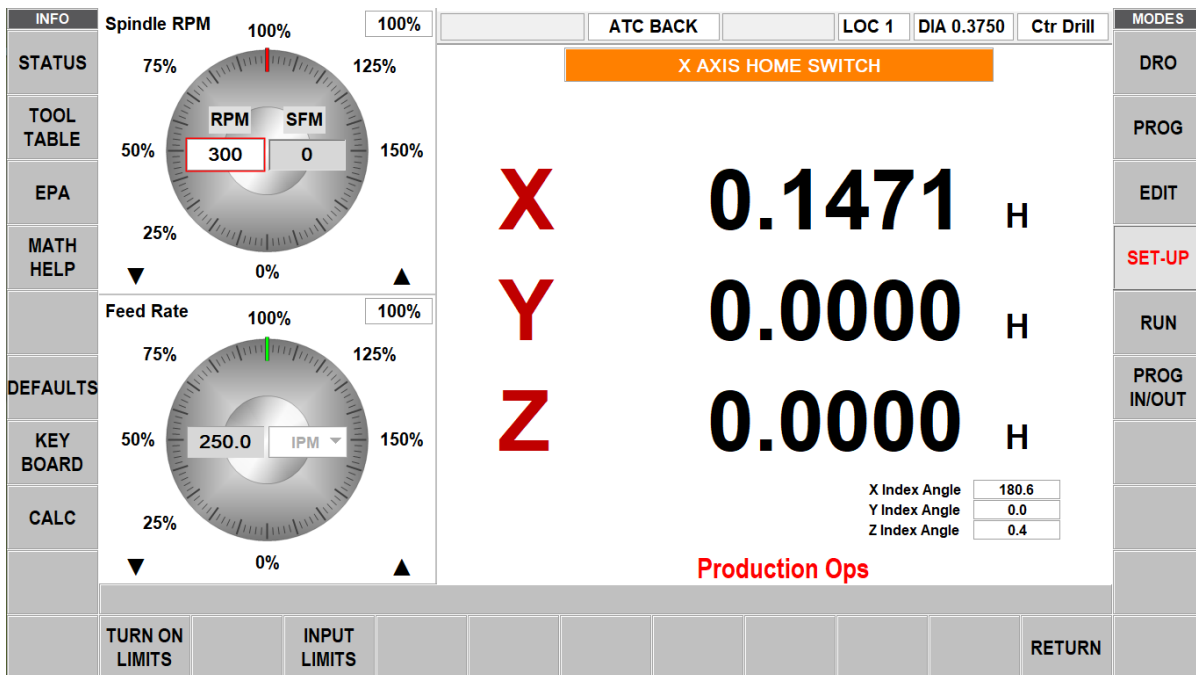

Figure 6.1.1.2
9. Check the Index Angle by slowly jogging the X axis to the right until the "X AXIS HOME SWITCH" flashing warning appears on the screen. Spec 180 + or- 45. See figure 6.1.1.2.
1. If the machine can be jogged under power go to Service Code 505 and jog the "Y" axis forward (use the finest resolution when you get near the limit switch) until the "POS Y AXIS LIMIT SWITCH" flashing warning message appears. Just like shown in figure 6.1.1.2, but for the Y axis. Note the displayed Index Angle.